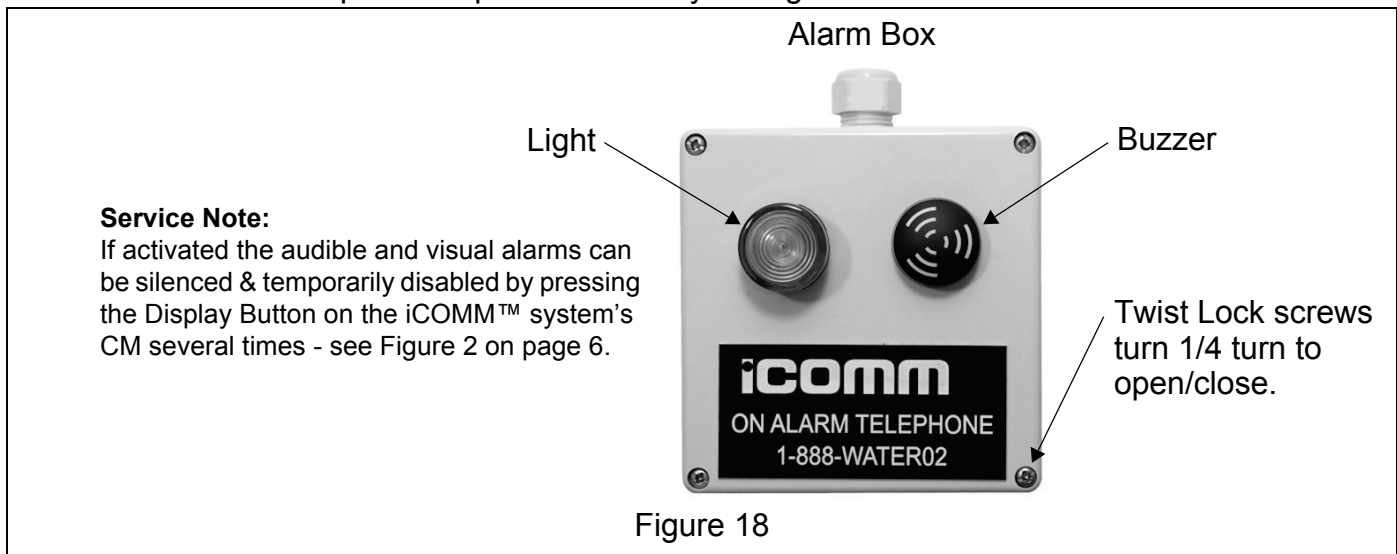
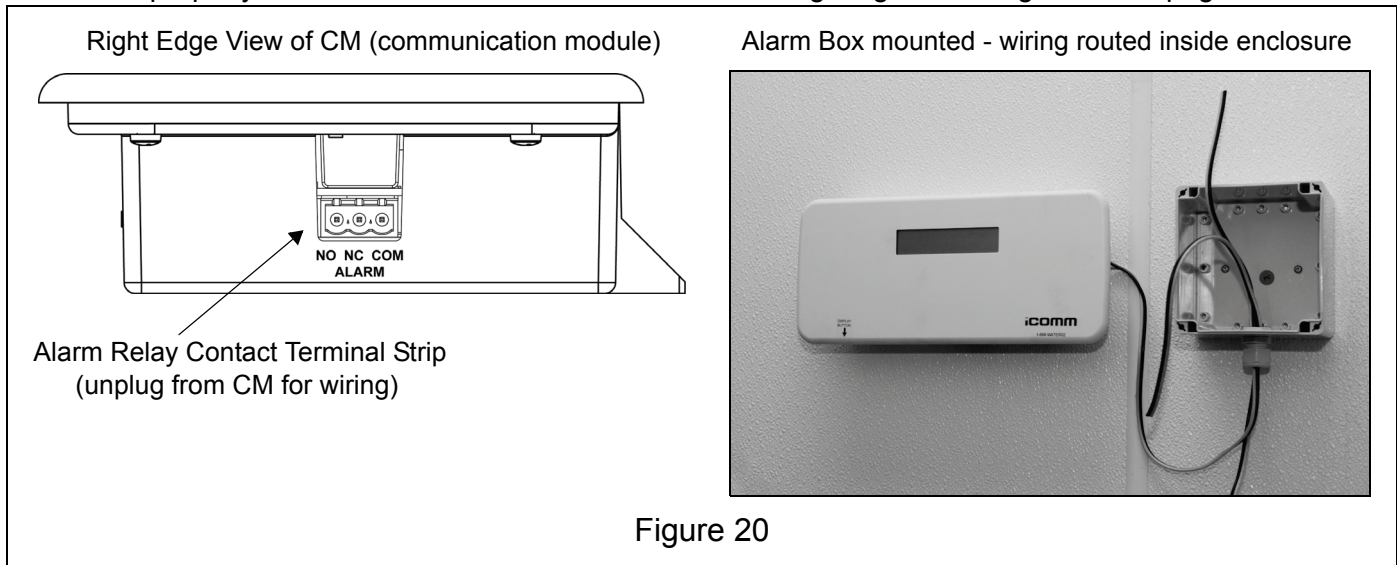
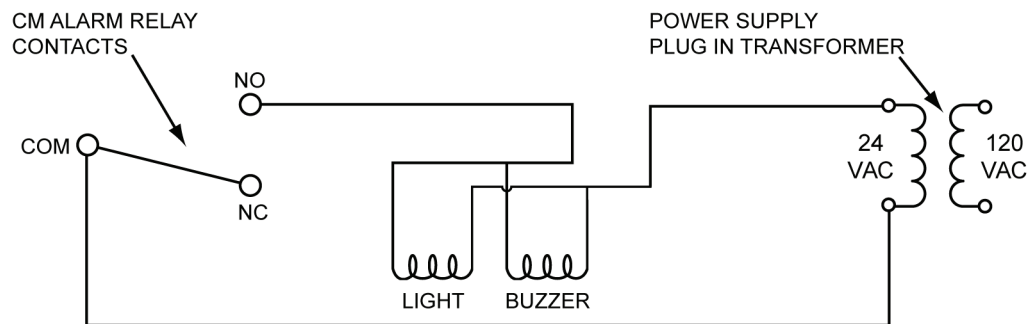

Figure 18
Figure 20
Figure 21
This section provides installation instructions for the Alarm Box - Figure 18. The Alarm Box is an optional iCOMM™ system component sold separately. The Alarm Box provides both visual (red light) and a loud (80dBA) audible alarm that is activated whenever a water heating appliance monitored by the CM declares a Fault or Alert condition. The alarm is activated if the Leak Detector system component (page 10) senses water. The alarm may also be activated if the system water temperature drops below a programmable set point accessed on the iCOMM™ web site.
- 2 Remove the Alarm Box cover by turning the four twist lock screws 1/4 turn and pulling the cover away from the enclosure - see Figure 18 on page 25.
- 1 Cut two pieces of the included 18/2 SJ cord (Table 5 on page 25) to length. Cut the first piece of wire to run between the Alarm Box and the right edge of the CM - see Figure 18 on page 25 and Figure 20. Cut the second piece to run between the Power Supply plug in transformer (Table 5 on page 25) and the Alarm Box.
- 2 Feed one end of the wires cut in Step 1 through the compression fitting on the Alarm Box - see Figure 19 on page 26. Leave enough wire inside the Alarm Box enclosure to make the wiring connections shown in Figure 21 on page 28. Tighten the compression fitting.
- 3 Strip 1/4" of insulation from the ends of all four wires inside the Alarm Box enclosure. Using the included wire nuts (Table 5 on page 25) connect the wiring as shown in the Connection and Wiring diagrams in Figure 21 on page 28.
- 5 Ensure the low voltage wiring is properly connected to the 24 VAC output terminals on the Power Supply plug in transformer as shown in the Connection and Wiring diagrams in Figure 21 on page 28. Strip 1/4" of insulation from the two wire ends leading to the plug in transformer and make the connections.
- 6 Strip 1/4" of insulation from the two wire ends leading to the Alarm Relay contact terminal strip on the CM. Connect these two wire ends to the "COM" and "NO" terminals on the terminal strip - see the Connection and Wiring diagrams in Figure 21 on page 28 and Figure 20. Unplug the Alarm Relay contact terminal strip from the CM when making these connections and tighten the terminal screws securely. Plug the terminal strip back into the CM when finished.
- 8 Check for voltage between the "COM" and "NO" Alarm terminals on the Alarm Relay contact terminal strip with an AC volt meter. If 24 VAC is not present ensure all Alarm Box wiring is properly connected - see the Connection and Wiring diagrams in Figure 21 on page 28.